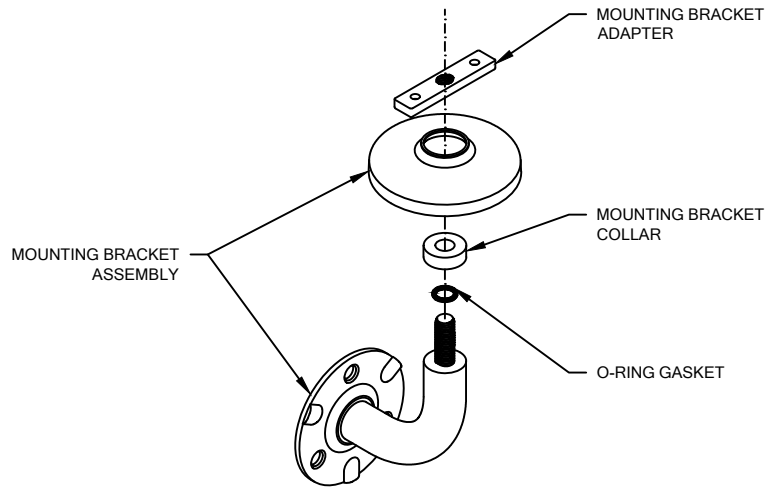

FIGURE 1.
6. ASSEMBLE MOUNTING BRACKET AS SHOWN IN FIGURE 1 ABOVE. USING THE ASSEMBLED BRACKET AS A TEMPLATE, DRILL 1/8" PILOT HOLES INTO THE RETAINER FOR MOUNTING BRACKET ATTACHMENT.
7. FASTEN THE ALUMINUM RETAINER TO THE WALL BRACKETS IN SUCCESSION BY INSERTING TWO (2) #6 X 5/8" S/S PHILLIPS FLAT HEAD SHEET METAL SCREWS THROUGH THE UNDERSIDE OF BRACKET INTO THE RETAINER. CAUTION: OVER-TORQUEING MAY CAUSE THE FASTENERS TO STRIP.